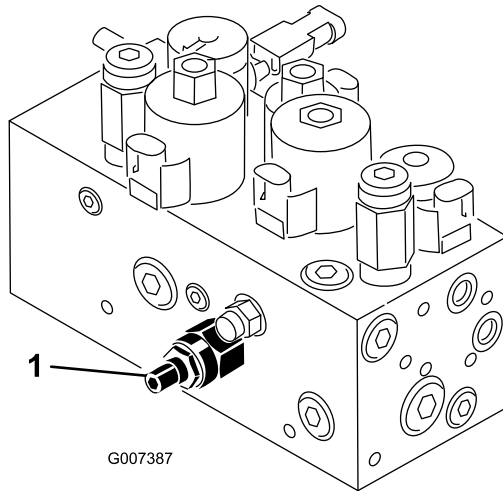

Figure 59
The cutting unit lift/drop circuit is equipped with a flow control valve (Figure 59). This valve is preset at the factory at approximately 3 turns open, but an adjustment may be required to compensate for differences in hydraulic oil temperatures, mowing speeds, etc. If an adjustment is required, proceed as follows:
1. Raise the seat and locate the flow control valve for the center pull frame (Figure 59) which is located on the side of the hydraulic manifold.